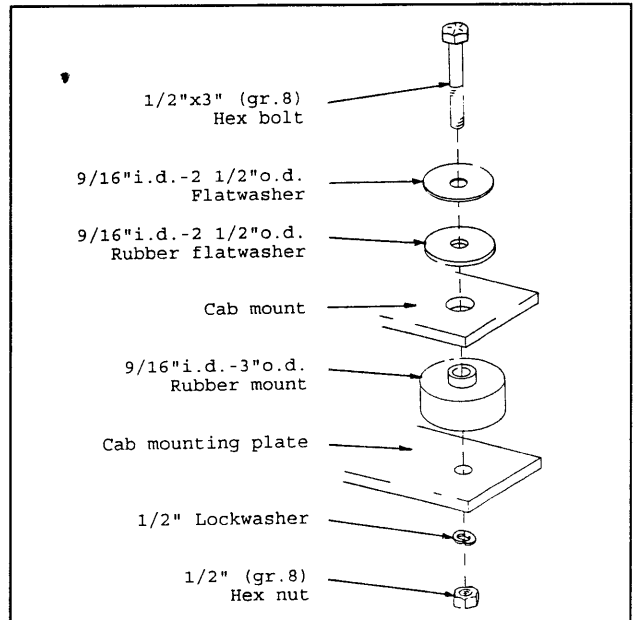

Figure 6
8. **NOW YOU ARE READY TO MOUNT THE CAB.** Place one 9/16"i.d.x3"o.d. rubber mount on each cab mounting plate of the rear bracket. Lift the cab, using the lift bolts located near the roof, directly above the unit. Slowly, lower the cab until the rear panel slips past the cab mounting plates of the rear bracket. Push the cab forward as far as possible, then lower the cab until the cab mounts rest solidly on the rubber mounts. Bolt the cab snugly to the rear brackets as shown in figure 6.